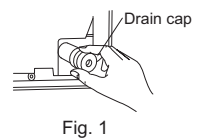

Fig. 1
- The drain hose should point downward for easy drain flow. (Fig. 1)
- Put the refrigerant piping and the drain hose together, then firmly apply felt tape (4) from the end.
- Pull out the drain cap at the rear right of the indoor unit. (Fig. 1)